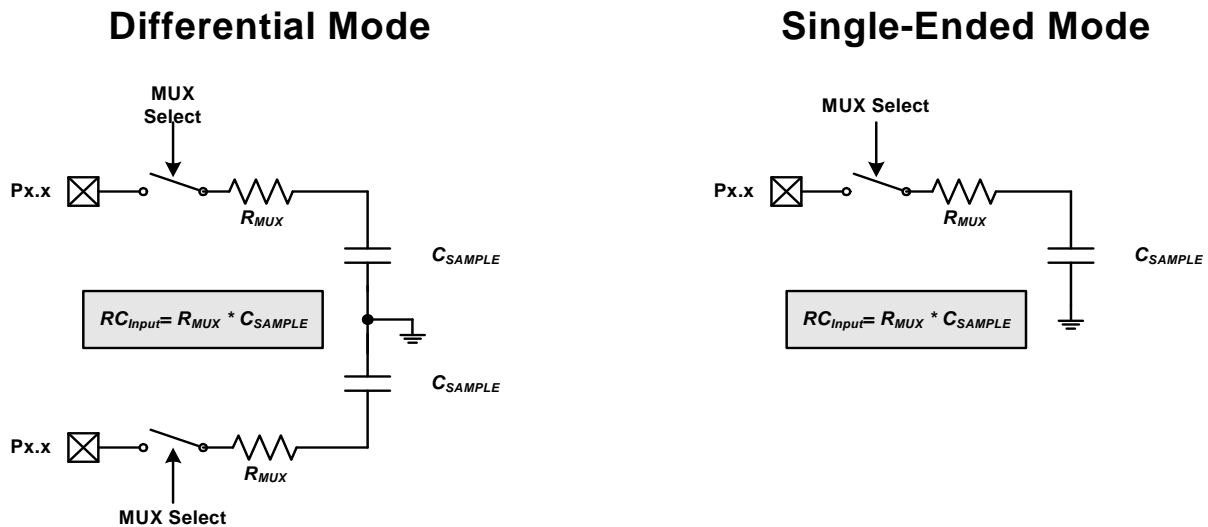

Figure 5.3. ADC0 Equivalent Input Circuits
Figure 5.3 shows the equivalent ADC0 input circuit. The required ADC0 settling time for a given settling accuracy (SA) may be approximated by Equation 5.1. See Table 4.10 for ADC0 minimum settling time requirements as well as the mux impedance and sampling capacitor values.